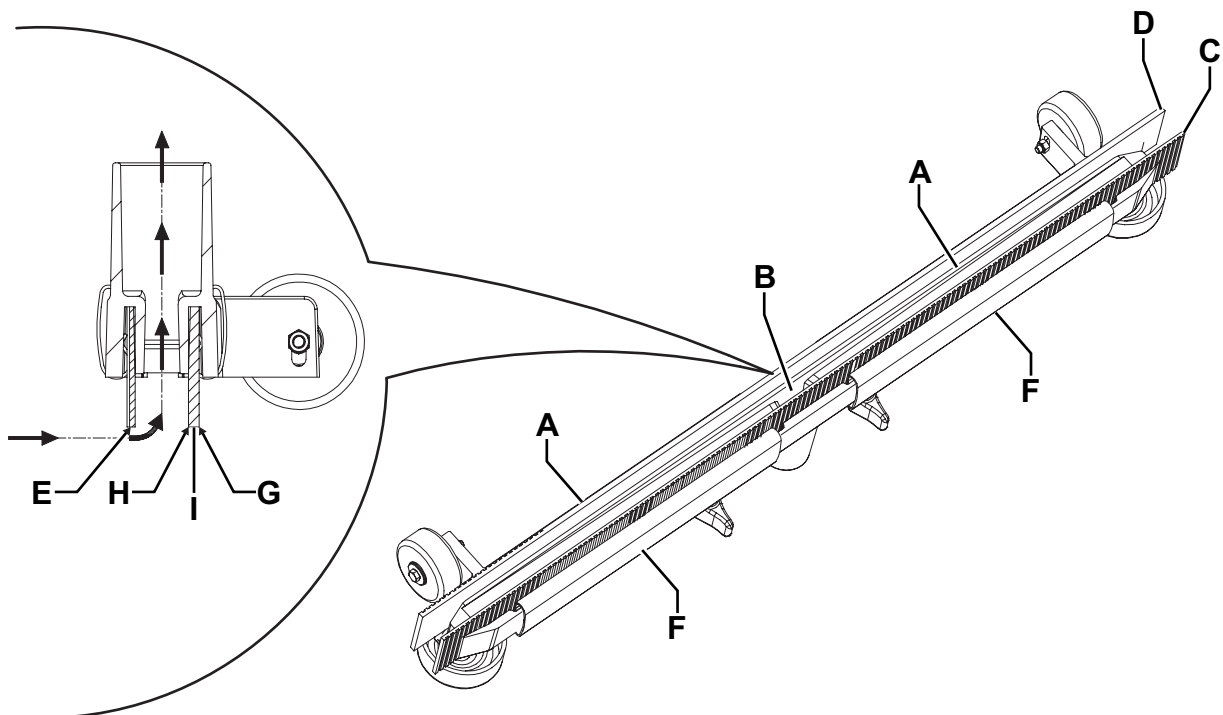

Figure 5
2. Make sure that the power supply cable plug (21) is disconnected from the electrical mains.
3. Lower the squeegee with the pedal (19).
4. Disconnect the vacuum hose (22) from the squeegee.
5. Loosen the handwheels (12) and remove the squeegee (11).
6. Wash and clean the squeegee. In particular, clean the compartments (A, Fig. 5) and the vacuum hole (B) from dirt and debris.
7. Check the front blade (C) and the rear blade (D) for integrity, cuts and tears; if necessary replace them (see the procedure in the following paragraph).
2. Check that the front blade edges (E, Fig. 5) and the rear blade edges (I) lay down on the same level, along their length; if necessary adjust the height according to the following procedure:
- Remove the mounting springs (F), then adjust the front blade (C) and the rear blade (D).
3. Check the front blade (C) and rear blade (D) for integrity, cuts and tears; if necessary replace them as shown below. Also check the front corner (H) of the rear blade for wear; if it is worn, overturn the blade to replace the worn corner with the other one (G), if it is integral. If the other corner is worn too, replace the blade according to the following procedure:
- Remove the mounting springs (F) and then replace (or overturn) the rear blade (D).
4. Install the squeegee (11) and screw tighten the handwheels (12).
5. Connect the vacuum hose (22) to the squeegee (11).